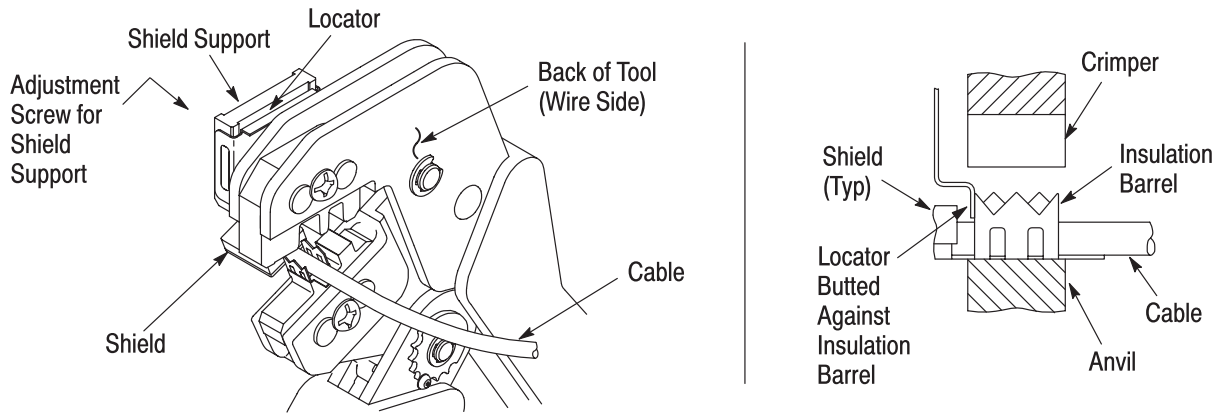

Figure 3
**4. SHIELD SUPPORT ADJUSTMENT** (Figure 3)
compatible with the cable size and insulation diameter. Then identify the appropriate crimp section according to the wire size markings on the tool. Refer to Figure 3 and proceed as follows:
3. Position the shield so that the mating end of the shield is on the locator side of the tool, and so that the open “U” of the insulation barrel faces the top of the tool. Place the shield up into the nest so that the movable locator butts against the front end of the insulation barrel. Refer to Figure 3.
*The crimped shield may stick in the crimping area, but the shield can be easily removed by pushing downward on the top of the locator (see Figure 3).*